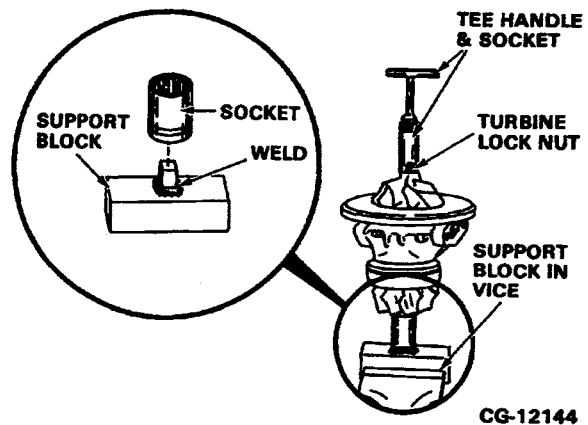

Figure 2.26. Shaft Lock Nut Removal
7. Remove the lock nut from the turbine shaft (Figure 2.26) as follows: